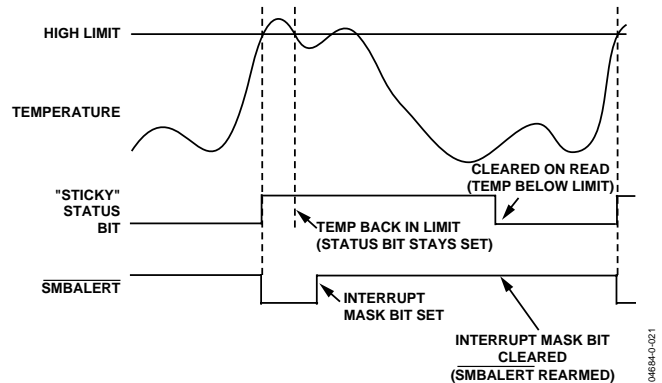

Figure 21. How Masking the Interrupt Source Affects $\overline{\text{SMBALERT}}$ Output
7. Periodically poll the status registers. If the interrupt status bit has cleared, reset the corresponding interrupt mask bit to 0. This causes the $\overline{\text{SMBALERT}}$ output and status bits to behave as shown in Figure 21.